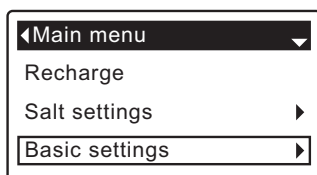

FIG. 39
2. Press the DOWN ▼ button to scroll through the menu options until **Basic settings** is highlighted (See Figure 39).